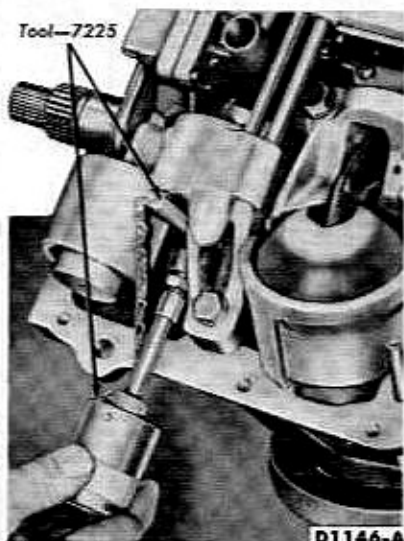

FIG. 33—Front Servo Adjustment
3. Using the front hand adjusting wrench shown in Fig. 33, insert a 1/4-inch spacer between the lever and the stem, and tighten the screw until the ratchet overruns.